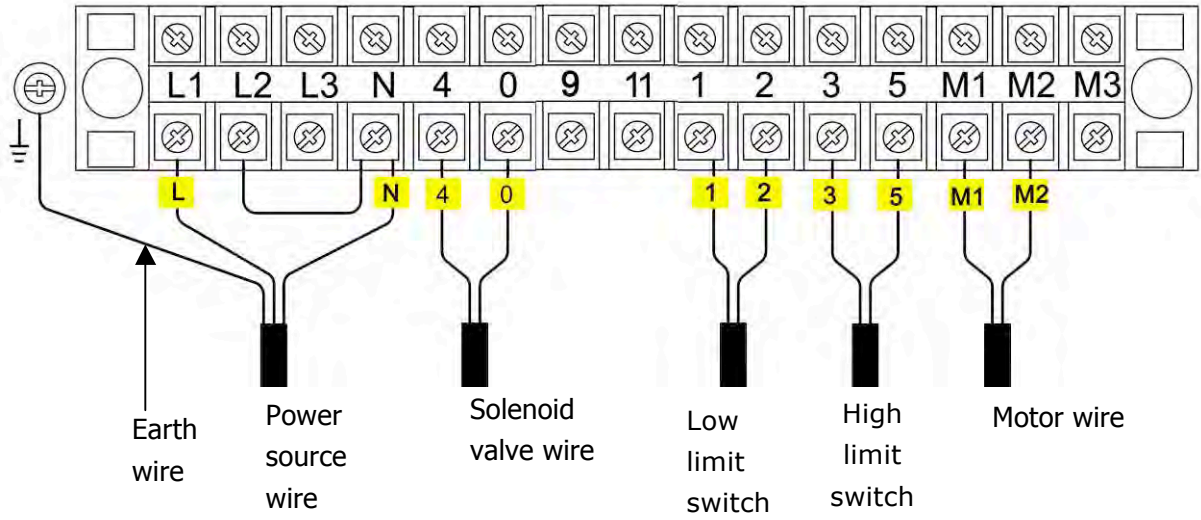

Fig.33
4.1 Wire connection diagram in the control box (See Fig. 33)